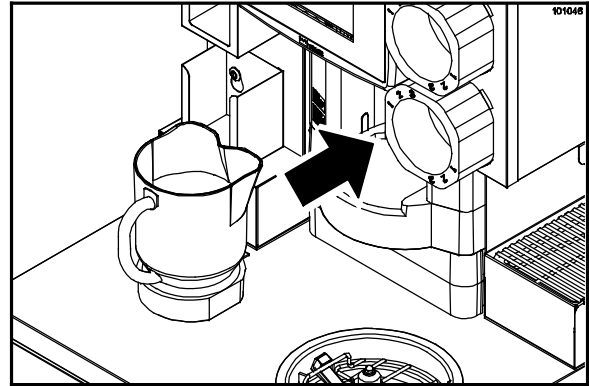

Figure 35
- Place a blender pitcher in the dispensing area. (See Figure 35.)